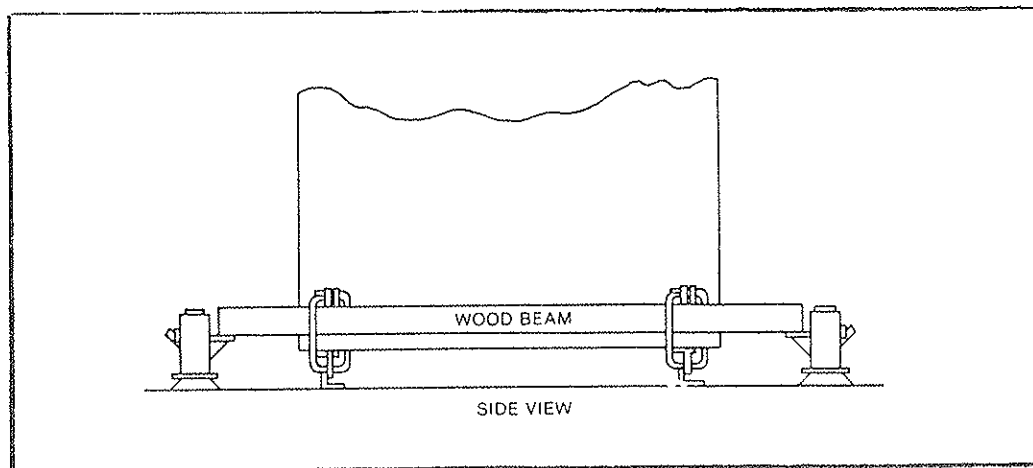

FIG II-6 Recommended method jacking outdoor equipment
1. Place a jack under the front and rear corners of one end of the line-up. Figures II-6 and II-7 illustrate the use of jacks with outdoor equipment.